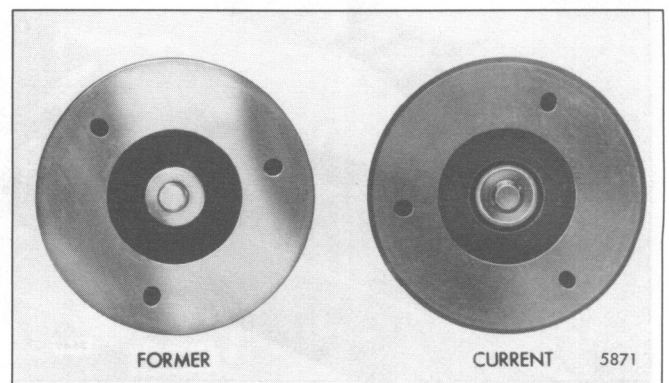

Fig. 23 – Spray Tip Sealing Surface Identification
- The sealing surface of current spray tips is precision lapped by a new process which leaves the surface with a dull satin-like finish; the lapped surface on former spray tips was bright and shiny (Fig. 23). It is not recommended to lap the surface of a *new* current spray tip.